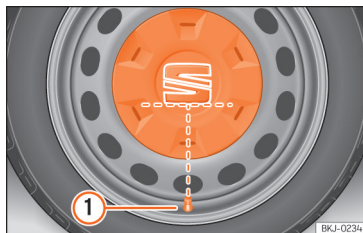

Fig. 192 Correct positioning of the central wheel trim for steel rims.
- Fit the central wheel trim onto the rim. The bottom of the "S" of the SEAT badge should align with the inflation valve >>> Fig. 192 ①.